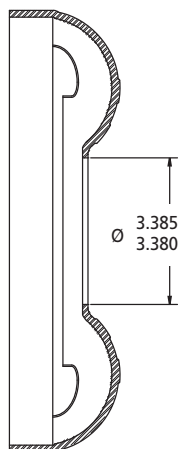

Figure 1
1. Remove the stock GM 245mm impeller hub by boring a 3.380"/3.385" diameter hole on center in the stock GM 245mm impeller (see Figure 1).